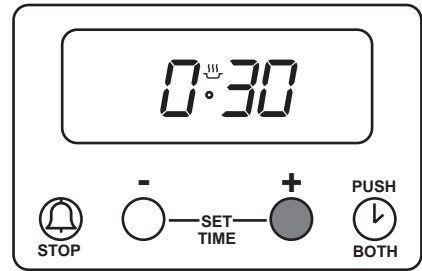

Fig. 7
Release button (1) and press and hold button (2). The display will count up in one minute intervals until the interval to be timed is reached, e.g. 30 minutes, see Fig. 7. If necessary, press and hold button (1) to achieve the correct time interval.